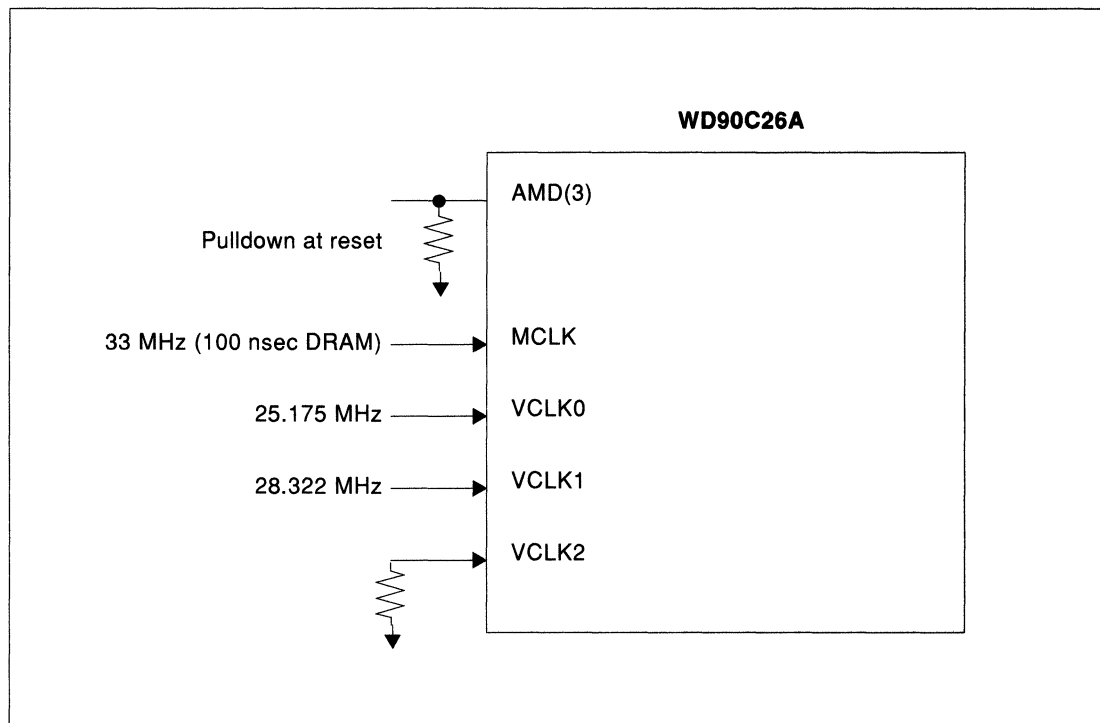

FIGURE 6-20 TYPICAL OSCILLATOR OR CLOCK FREQUENCIES FOR STANDARD VGA MONITOR SUPPORT
- Typical Oscillator or Clock Frequencies for Standard VGA Monitor Support (see Figure 6-20).